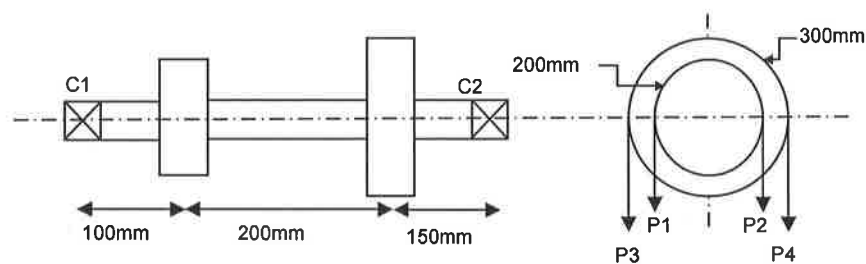

Figure 2
- (b) A transmission shaft, supporting two pulleys A and B and mounted between two bearings C1 and C2 is shown in Figure 2. The shaft transmits 7.5 kW power at 360 rpm from pulley A to B. The diameters of pulley A and B are 200 mm and 300 mm respectively. The belt tensions act vertically downward and ratio of belt tensions on tight side to slack side for each pulley is 2.5:1. The shaft is made of plain carbon steel 45C8 ($S_{yt} = 380 \text{ N/mm}^2$).